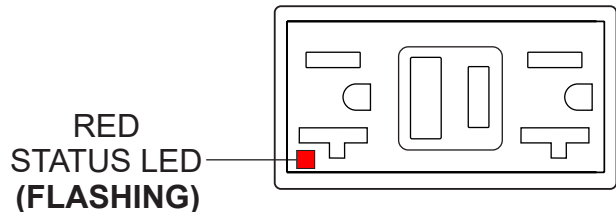

Figure 71. GFCI Receptacle (Red Flashing LED)
6. If the status LED (Figure 71) is **flashing (RED)**, **DO NOT** use the GFCI receptacle and replace it immediately.